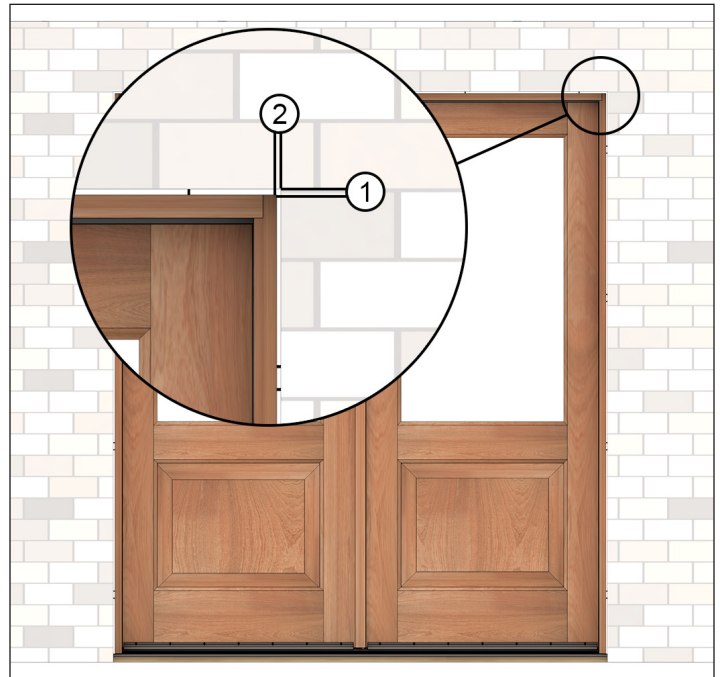

Figure 2 Rough Masonry Clearance
2. Masonry openings (MO) should be $\frac{1}{4}$ " (6) higher and $\frac{1}{2}$ " (13) wider than the outside measurement of the frame ($\frac{1}{4}$ " on each side of the frame) or casing. See Figure 2.